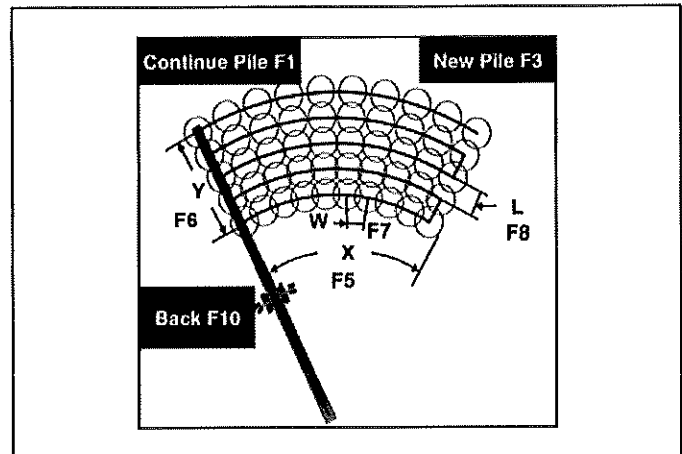

Figure 70
- Press screen **F5** or **[F5]** to adjust radial arc distance (**X**) (Figure 70).
- Press screen **F6** or **[F6]** to adjust extension distance (**Y**) (Figure 70).
- Press screen **F7** or **[F7]** to adjust radial increment distance (**W**) (Figure 70).
- g. Press screen F8 or [F8] to adjust extension increment distance (L) (Figure 70).